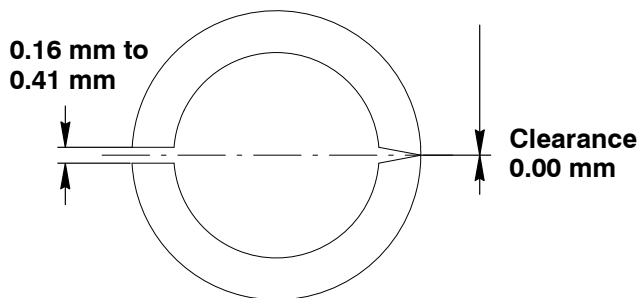
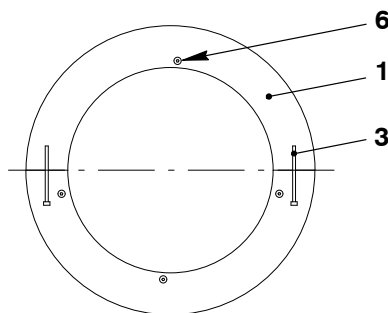
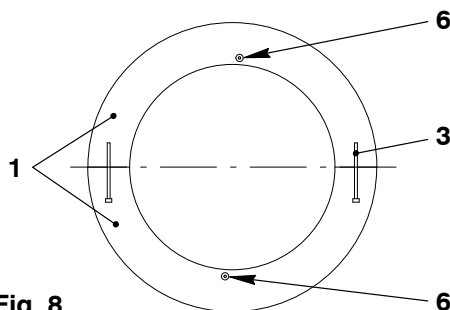

Fig. 6
Fig. 7
Fig. 8
- 7) Put the other half of the crankshaft gear wheel (1, Fig. 6) (with the other two assembled elastic studs) in position on the crankshaft flange. Make sure that at one side, there is no clearance.
- 9) Adjust the top half of the crankshaft gear wheel (1) to get an equal clearance on each side.
- 10) Lightly tighten the castle nuts on the elastic studs (3, Fig. 7).
- 11) Put a flange screw (6) in the center position in the top half of the crankshaft gear wheel (1). Temporarily tighten the flange screw.
- 12) Remove the two outer flange screws from the bottom half of the crankshaft gear wheel (1). Make sure that only the top and bottom flange screws (6, Fig. 8) stay in position.